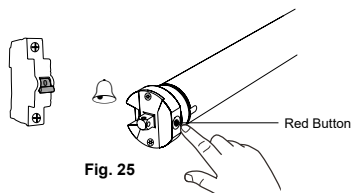

Fig. 25
- Press the **red button** on the motor **10 x** (Fig. 25) 10 bleeps